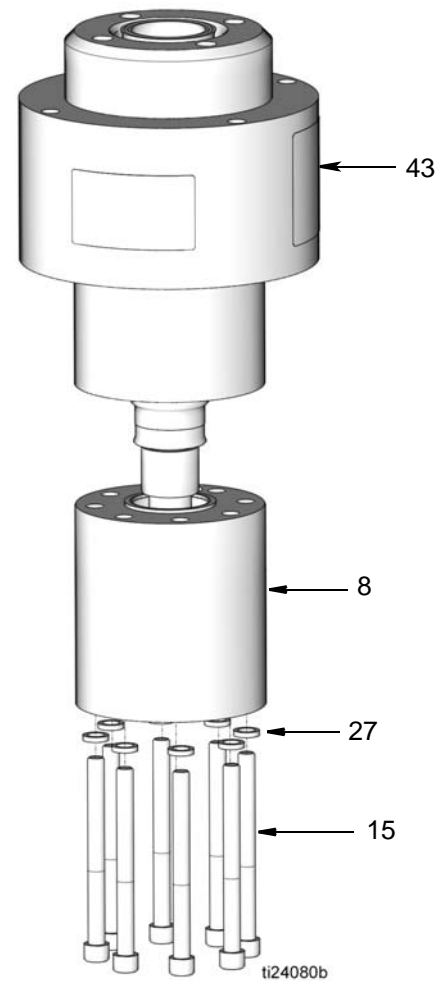

FIG. 6
- Remove eight capscrews (15) and washers (27) from bottom of pump adapter (8). Tap pump adapter to loosen it and pull it off the motor housing (43) (FIG. 6).
4. Remove eight capscrews (15) and washers (27) from bottom of pump adapter (8). Tap pump adapter to loosen it and pull it off the motor housing (43) (FIG. 6).